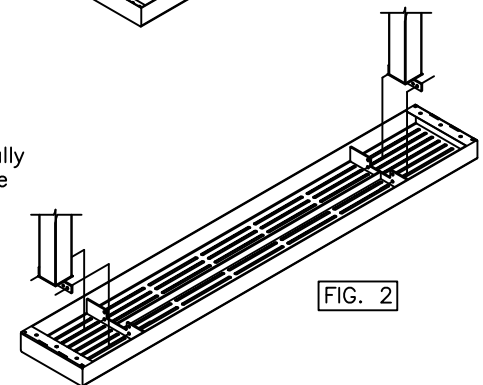

FIG. 2
Invert both (B-) seats so they're upside down on a flat surface. Attach each (C1) or (C3) legs to the outside of the seat's mounting brackets, see FIG. 2. Use two, per each leg, (G) and (I) using two (H) and one (J) per (G). Draw the fasteners to a snug fit with wrenches.